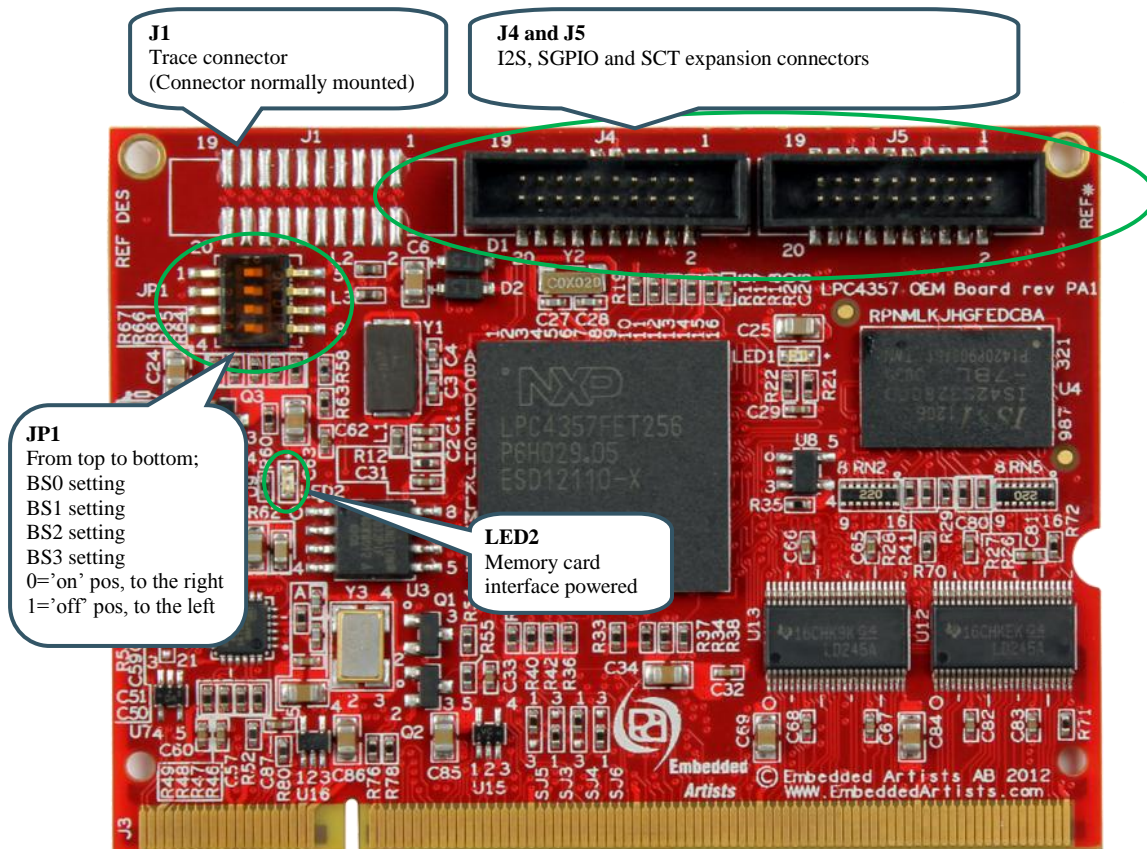

Figure 1 – LPC4357 OEM Board Picture, top side
There is a connector on the top side of the LPC4357 OEM board, carrying all signals needed for debugging with trace. It is a standard 20 pos (50 mil pitch) trace connector as defined by ARM. Figure 1 illustrates where J1 is located on the board.
There are two 20-pos, 50 mil pitch connectors on the top side of the LPC4357 OEM board. See Figure 1 for location. These connectors carry selected I2S, I2C, SGPIO and SCT signals and can be used to connect these signals to a separate expansion boards. For example an audio and video expansion board. Note that some of the signals can be used on the OEM base board. Before using the signals, always check for possible contentions.
There is a uSD/transflash memory card interface connector, J2, on the bottom side of the board. See Figure 2. LED2, on the top side, lights when the interface is powered. See Figure 1 to locate LED2.